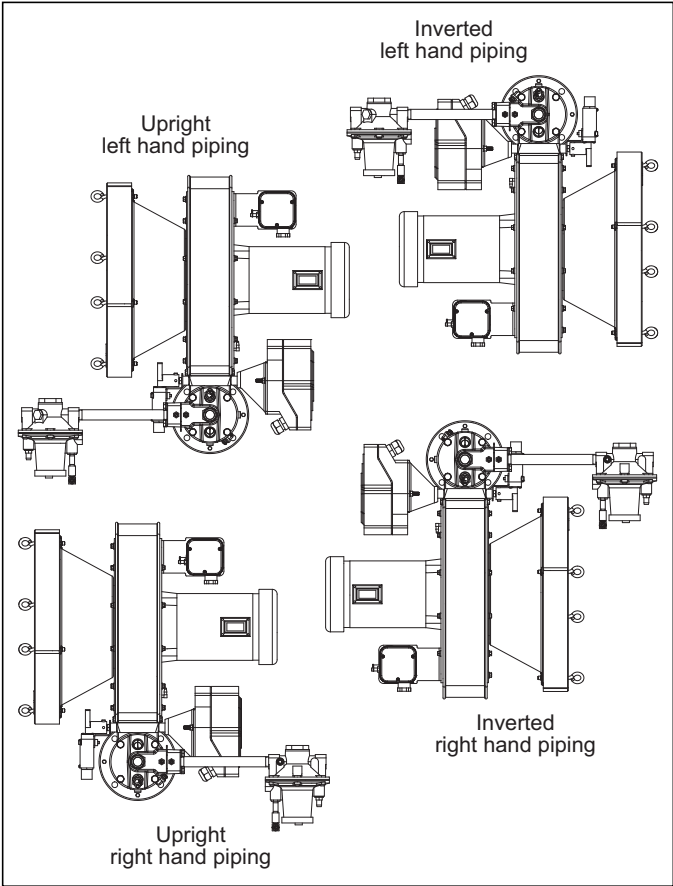

Figure 3.1. Configuration Selection and Motor Orientation Choice
- **Fuel Type:** Variation in calorific value, specific gravity and WOBBE index will affect burner performance. If any of these parameters change more than ±5% from Figure 3.1 contact Heatflam to check the suitability of the fuel. Performance data, dimensions and specifications are given for each TA in Datasheets 115-1 through 115-11.